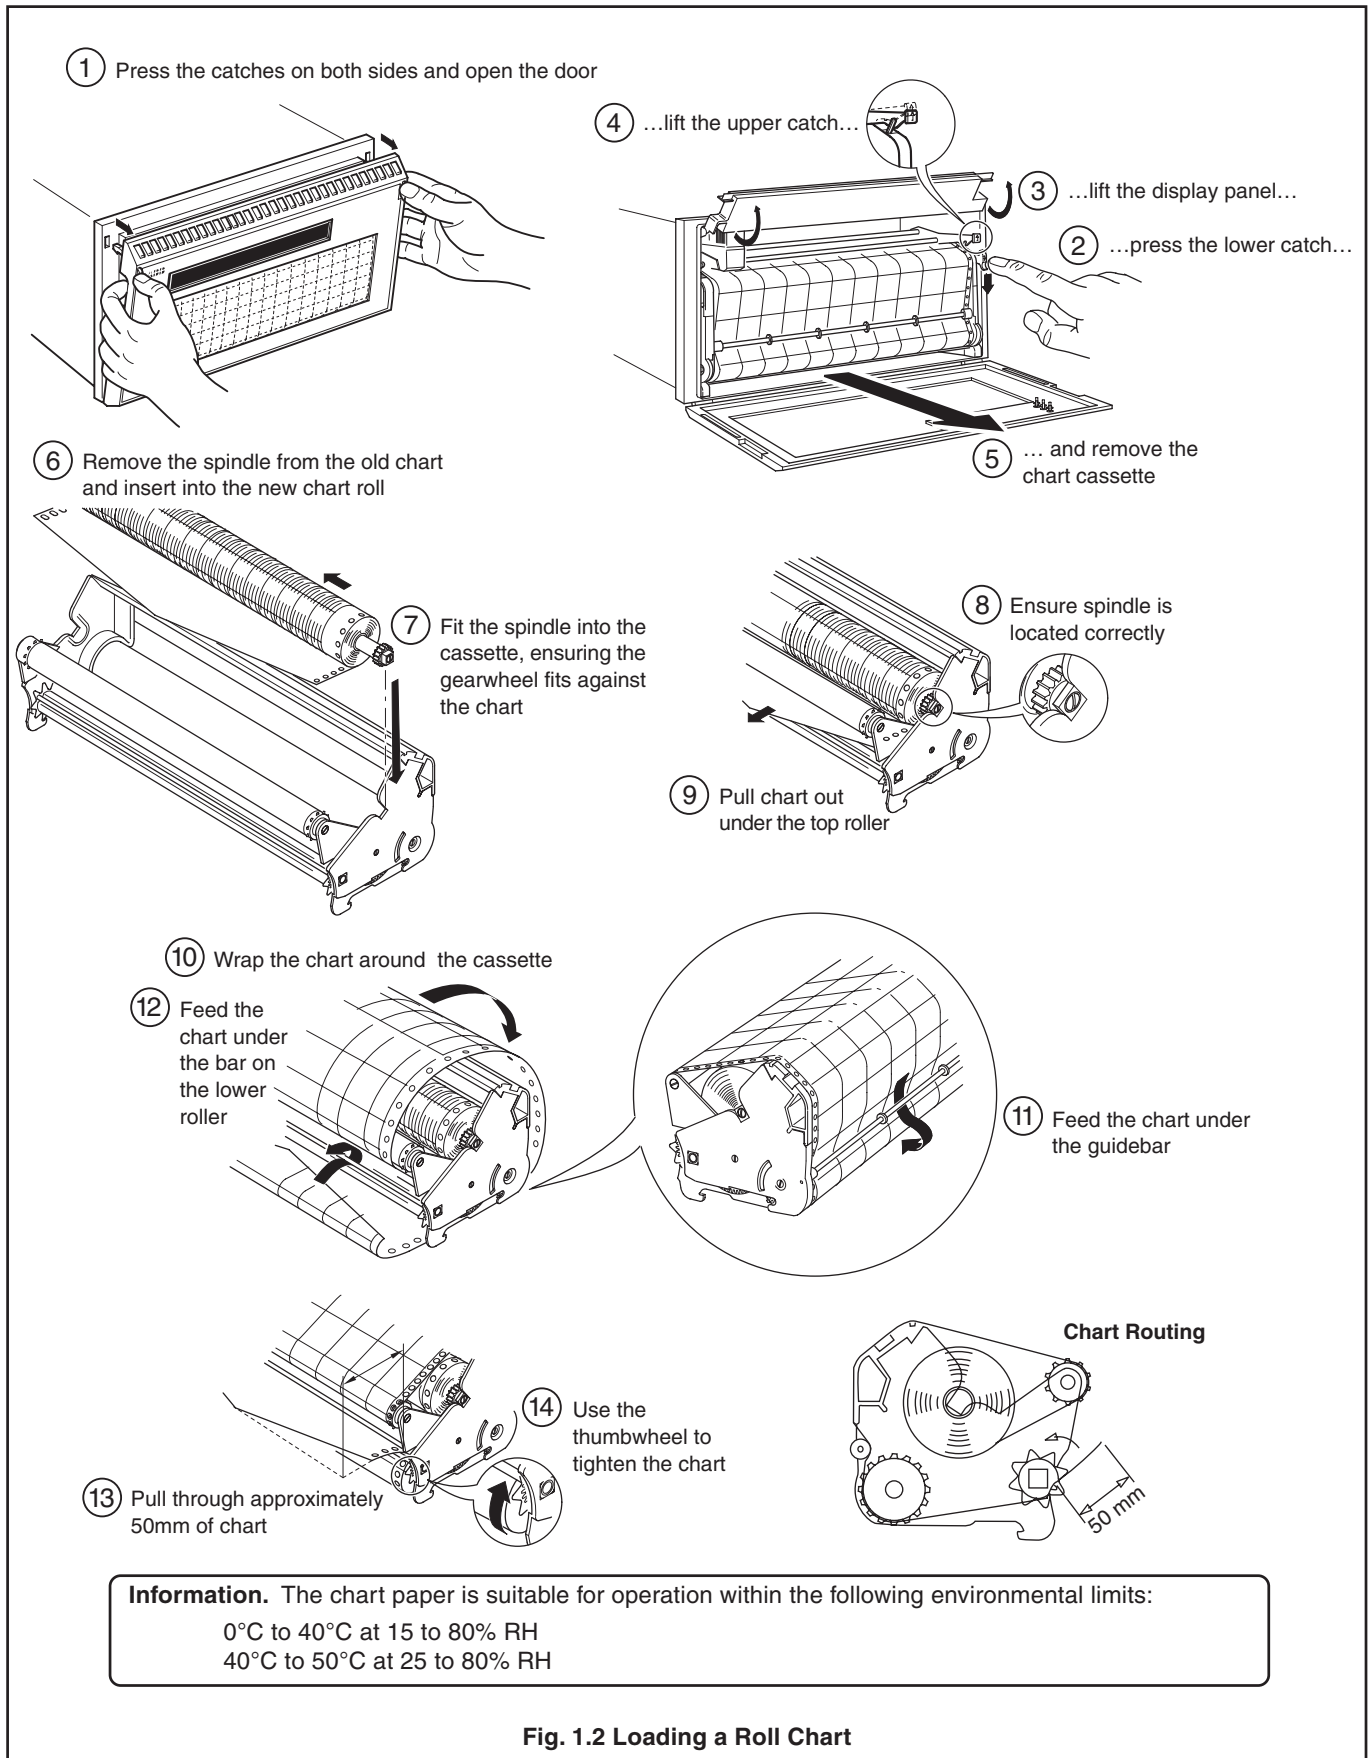

Fig. 1.2 Loading a Roll Chart
- Load the new chart Page 5 – see Fig. 1.2
...1.1 Loading a Chart – Fig. 1.2
Remove the old chart and load new chart paper – see Fig. 1.2.